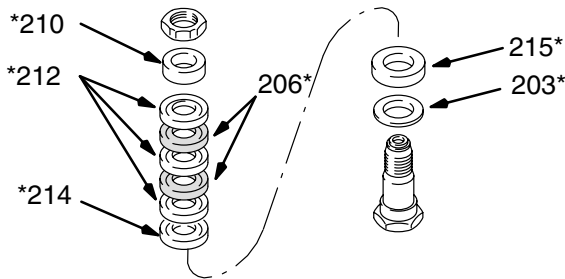

Fig. 23 02566
1. Clean the piston valve threads. One at a time, stack the backup washer (203\*), seal (215\*) (with lips facing down), and female gland (214\*) on the piston. Alternately stack the polyethylene (212\*) and leather (206\*) packings (lips facing up) on the piston. Then install the male gland (210\*). See Fig. 23.